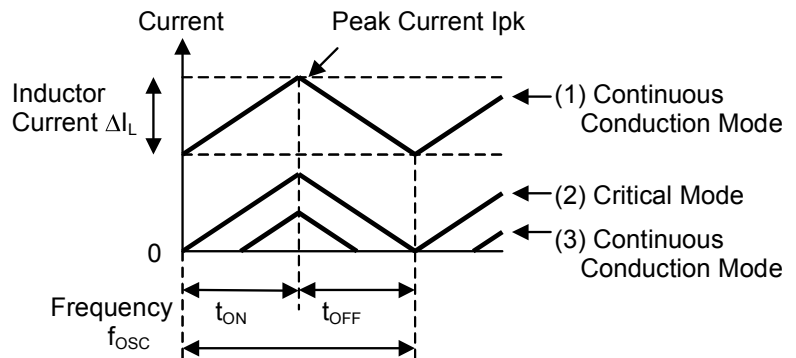

Fig. 6. Inductor Current State Transition
Ideally, the value of  $L$  is set so that inductance current is in continuous conduction mode. However, as the load current decreases, the current waveform changes from (1) CCM: Continuous Conduction Mode → (2) Critical Mode → (3) DCM: Discontinuous Conduction Mode (Fig. 6.).